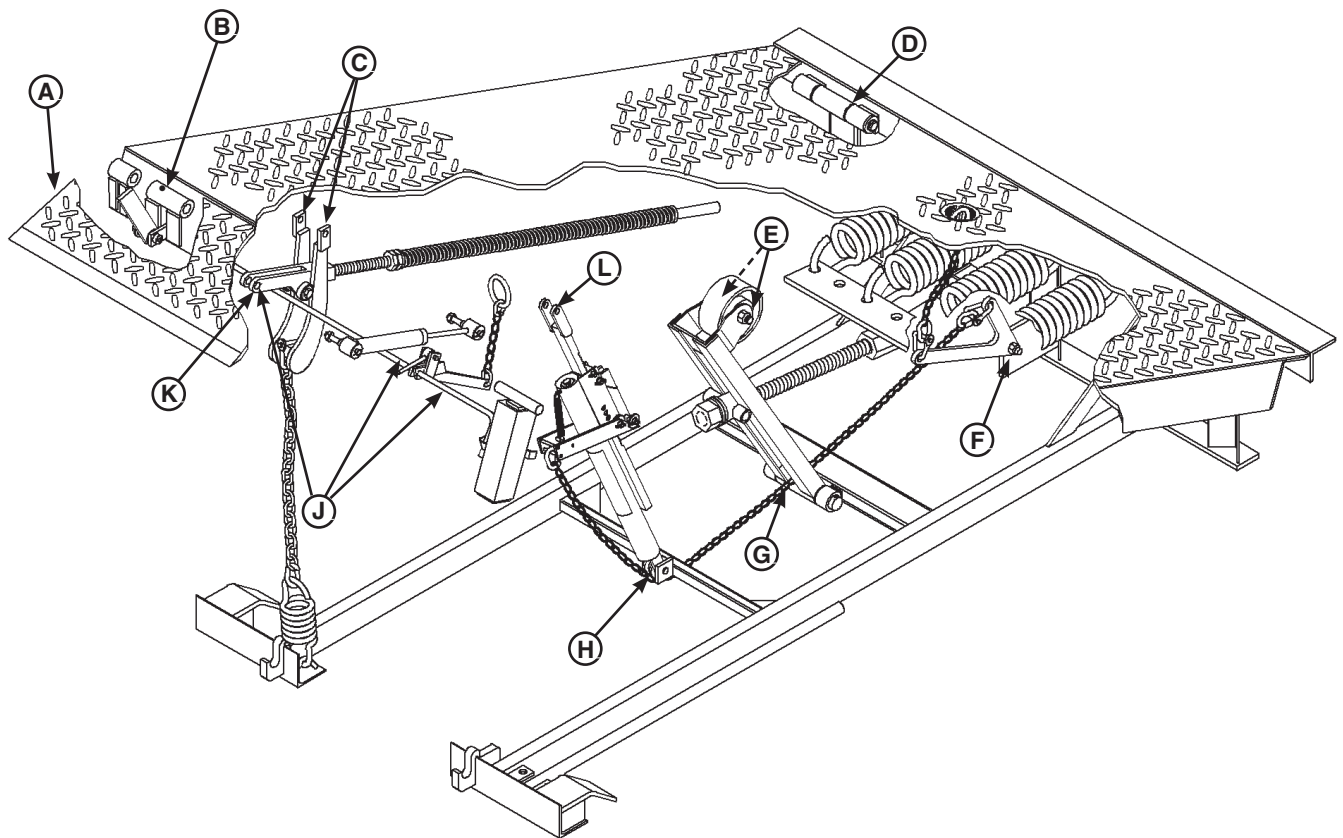

Figure 21
- Lubricate the following areas with lightweight machine oil (See Figure 21):
- (B)— Lip maintenance prop pivot
- (C)— Lip banger pivots
- (F)— E-Z release bellcrank pivot
- (H)— Hold-down pivot/pulley
- (J)— Safety leg linkage pivots
- (L)— Hold down-to-platform pin
- Lubricate the following areas with white lithium grease (See Figure 21):
- (A)— Lip hinge area (inject grease into all the lip hinge grease fittings)
- (D)— Platform hinge area (inject grease into all the platform hinge grease fittings)
- (E)—Lift arm roller bushing (2) grease fittings
- (G)— Lift arm pivot
- (K)— Lip assist pin